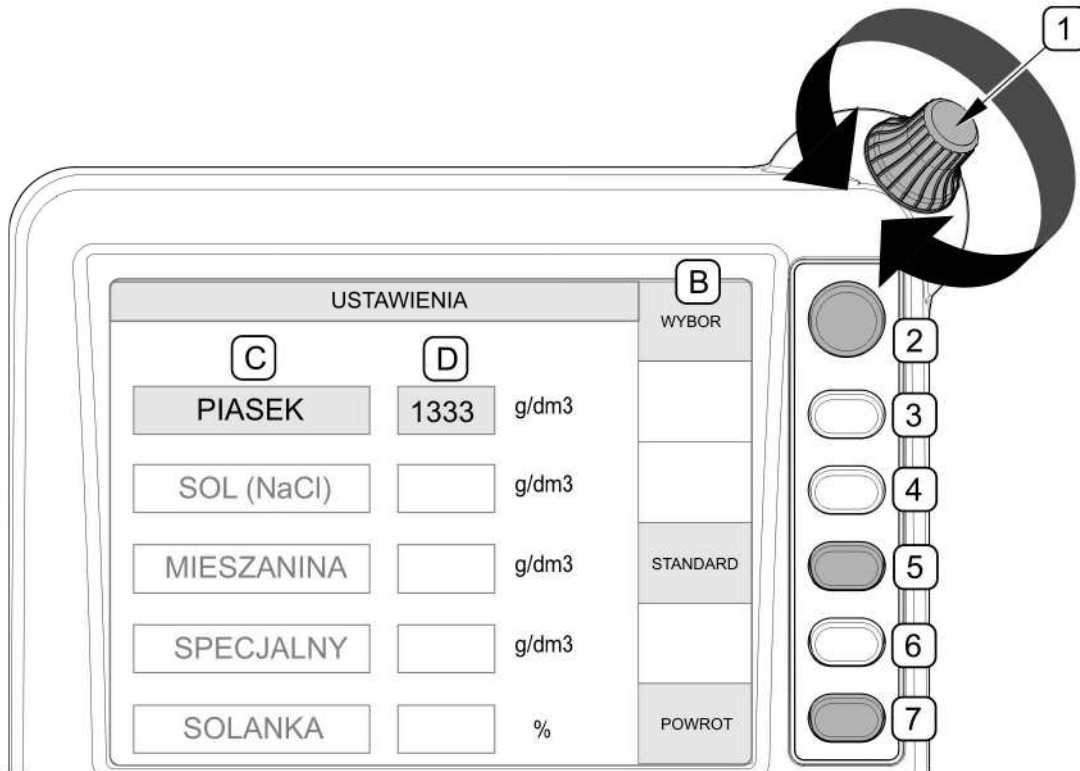

FIG. 4.17 Example of control panel operation
Depending on a display menu page selected, (FIG. 4.17) currently assigned functions (B) are displayed next to function push-buttons (2),(3),(4),(5),(6),(7). On each display menu page, different functions are displayed for a given push-button. Empty function field next to push-buttons (3),(4),(6) means that the push-buttons are not active at the moment (FIG. 4.17). Knob (1) is used for moving to another field (C) and for changing values of parameters in field (D).